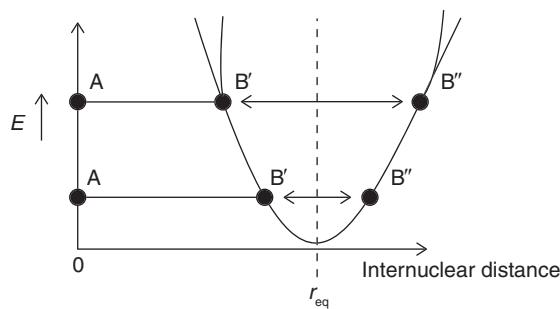

Figure 14 Plot of energy vs. internuclear distance.
When two atoms combine to form a stable covalent molecule (e.g., HCl gas), it is possibly because of some internal electronic rearrangement. On the one hand there is a repulsion between the positively charged nuclei of atoms and between the negative electron clouds. On the other hand, there is an attraction between the nucleus of one atom and the electrons of the other, and vice versa. The two atoms settle at a mean inter-nuclear distance such that these forces are just balanced and the energy of the whole system is at a minimum. Attempt to distort the bond requires an input of energy. If energy is plotted against internuclear distance, the minimum intermolecular distance is referred to as the equilibrium distance r_{eq} or more simply as the bond length (Figure 14). It resembles the parabolic curve of energy plotted against the extension or compression of a spring obeying Hooke's law.
Figure 14 shows that if one atom (A) is considered to be stationary on the $r = 0$ axis, the other will oscillate between B' and B'' . If the energy is increased to E_2 , the oscillation will become more vigorous – that is to say, the degree of compression or extension will be greater – but the vibrational frequency will not change. An elastic bond, like a spring, has a certain vibration frequency dependent upon the mass of the system and the force constant, but independent of the amount of distortion classically, the oscillation frequency is